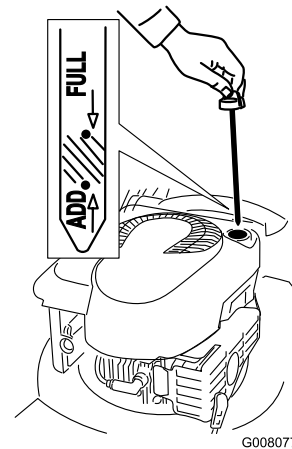

Figure 6
1. Remove the dipstick (Figure 6).
2. **Slowly** pour oil into the oil fill tube until the oil level reaches the Full line on the dipstick (Figure 6). **Do not overfill.** (Max. fill: 0.59 l, type: SAE 30W detergent oil with an API service classification of SF, SG, SH, SJ, SL, or higher.)
1. Remove the dipstick, wipe it clean, and fully install the dipstick (Figure 6).
2. Remove the dipstick and check the oil level (Figure 6). If the oil level is below the Add mark on the dipstick, **slowly** pour oil into the oil fill tube to raise the oil level to the Full mark on the dipstick. **Do not overfill.** (Max. fill: 0.59 l, type: SAE 30W